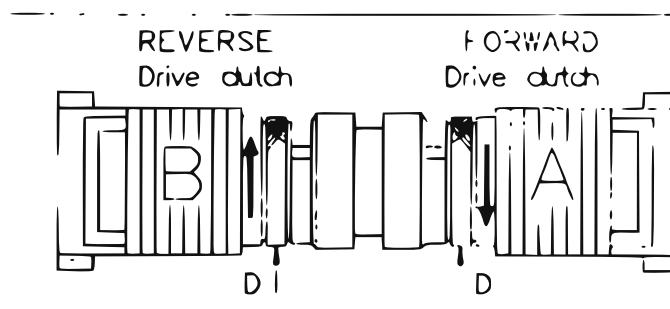

Figure 6-6: Drive clutches and lock rings
- 4 Slide back the knurled lock ring (D) to disengage it, and rotate one clutch in the direction of the arrow to tighten it (Figure 6-6).